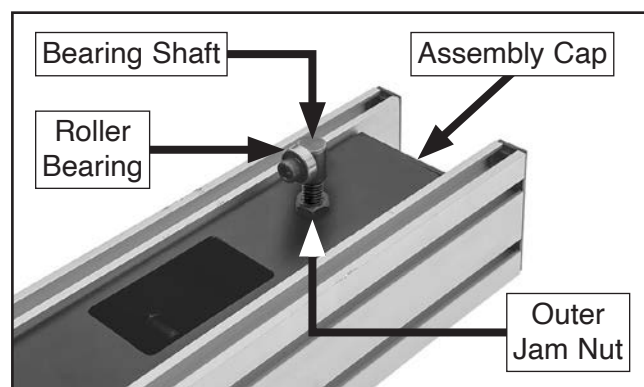

Figure 121. Rear adjustment area for leveling fence.
6. Remove fence assembly cap, as shown in **Figure 121**, then loosen inner and outer jam nuts that secure bearing shaft.